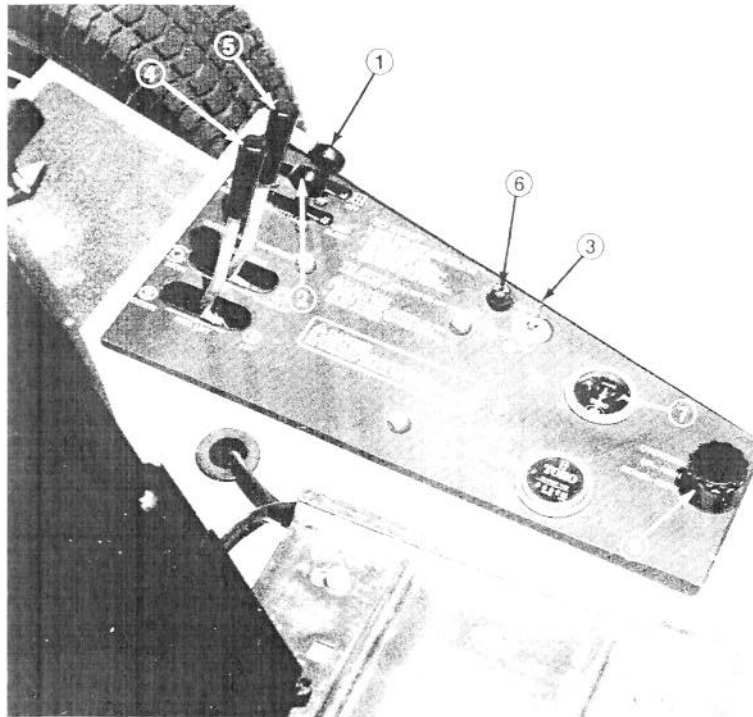

Figure 21
Overdrive Selector (Fig. 21) – Black knob at rear of instrument panel. Push knob to DOWN (mow) position to provide drive to all three (3) wheels and ground speed of approximately 0-5 MPH (0-8 km/hr) for mowing operation. Pull knob to UP
Mow-Backlap Control (Fig. 21) – Outboard hydraulic control lever. Has three positions, MOW, OFF and BACKLAP. Move lever fully forward to detent for MOW operation, to center of slot to OFF position to stop reels and to full rearward detent position to BACKLAP for backlapping operation or to clear reels of foreign materials.
Cutting Unit Lift Control (Fig. 21) – Inboard hydraulic control lever. Has three positions, DOWN, NEUTRAL and UP. Move lever fully forward to DOWN position and hold for approximately five to ten seconds to fully lower cutting units and ensure they will follow uneven ground contours. Release lever to allow it to return to NEUTRAL position. Pull lever rearward and hold in UP position to fully raise cutting units.
Throttle (Fig. 21) – Throttle is used to adjust engine to various speeds. Moving throttle forward increases engine speed – FAST; backward decreases engine speed – SLOW. The throttle regulates the speed of the cutter blades and, in conjunction with traction pedal, controls ground speed of the traction unit.
Choke (Fig. 21) – To start a cold engine, close carburetor choke by moving choke control fully forward. After engine starts, regulate choke to keep engine running smoothly. As soon as possible, open the choke by pulling lever backward.
Ignition Switch (Fig. 21) – The ignition switch, which is used to start and stop the engine, has three positions: OFF, RUN and START. Rotate key clockwise to the START position to engage starter motor. When engine starts, release key and it will move automatically to the ON position. To shut engine off, rotate key counterclockwise to the OFF position.
Fuse Holder (Fig. 21) – Located in front of hour-meter. Fuse Holder is part of charging circuit and contains a 30 Amp fuse. Remove fuse by rotating
Hour Meter (Fig. 21) – Located in front of over-drive selector. Indicates the total hours of machine operation. The Hour Meter starts to function whenever the key switch is rotated to “ON”.
Ammeter (Fig. 21) – Located above Hour Meter. Ammeter shows charge rate of battery by the generator. When engine is running, there usually is a slight charge, unless engine is idling slowly. Needle will point to 0 when battery is fully charged. By contrast, generator is not charging battery when needle points to (–) negative side of ammeter, and if this happens, repair charging system to prevent discharge of the battery.